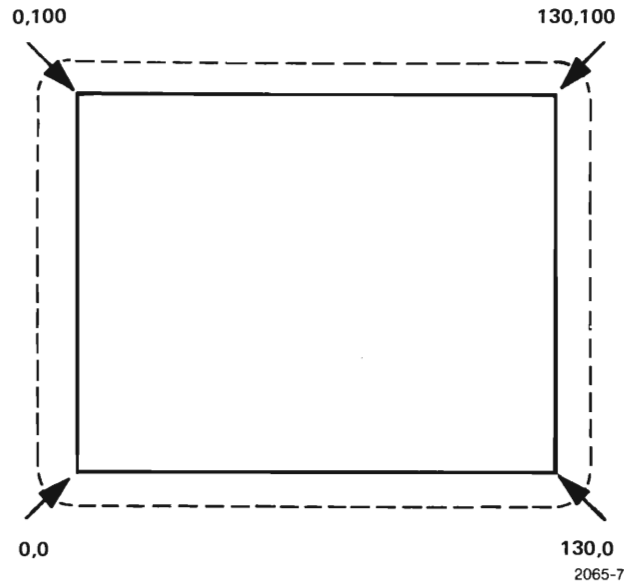

Figure 2-3. Default Graphic Coordinate Limits.
GRAPHICS Coordinates are specified by a pair of decimal fractions. The default coordinate limits are 0 to 100 on the vertical (Y) axis and 0 to 130 on the horizontal (X) axis. Vectors are drawn using MOVE and DRAW commands. The coordinate limits can be changed by executing the WINDOW command. Resolution is approximately 120 points per inch for the 4052 and 290 points per inch for the 4054 (see Figure 2-3).